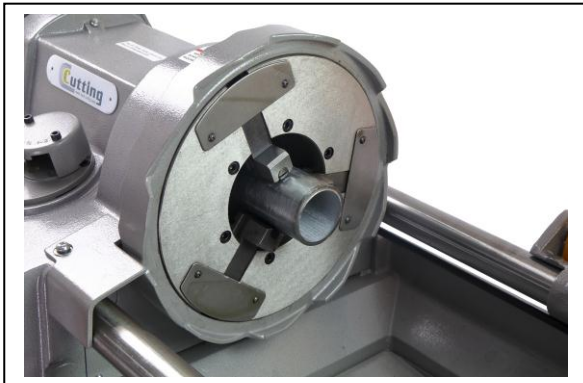

Fig 1
3. Insert the pipe into the Threading Machine so that the end to be worked or the cutting mark is located about 12 inches to the front of the speed chuck jaws (*Fig 1*).
2. Place shift knob in 36 RPM position (Figure 1).